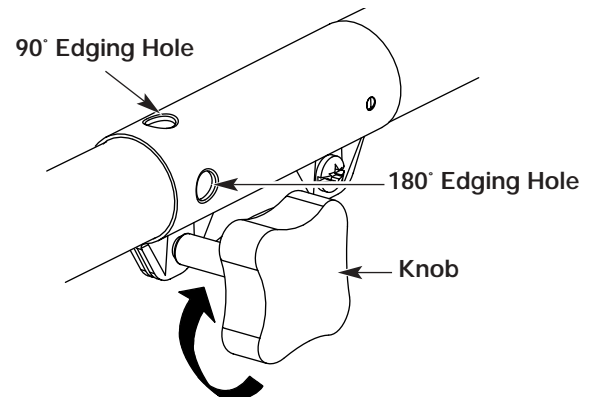

Fig. 16
3. Turn the knob clockwise to tighten (Fig. 16).
For edging when using the line head cutting attachment with EZ-Link™ models, lock the release button of the cutting attachment into the 90° edging hole or the 180° edging hole (Fig. 16).